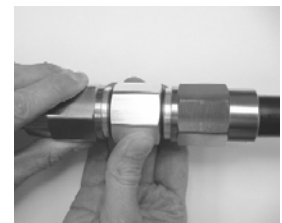

Figure 6
- 5) Hand-tighten the three pieces together (Figure 6). Using adjustable wrenches hold middle-nut while turning back-nuts. Continue tighten until splice will not rotate on cable. (Tools required: Adjustable Wrenches)